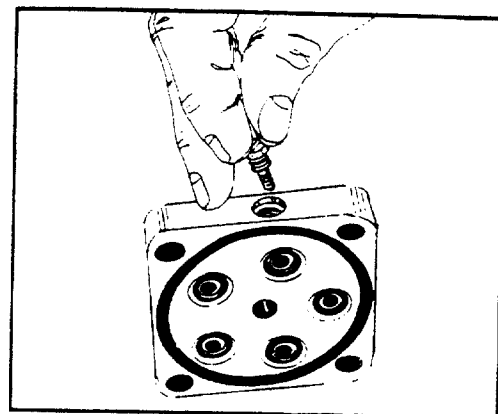

FIGURE 87.
38. If plug (6) was removed, install new O-ring (7) on plug (6), insert check ball (5) into check ball hole in port cover (2). Be sure ball (5) is seated in bottom of check ball hole. Turn plug assembly (6, 7), into port cover (2) until ball (5) is retained. See figure 87.